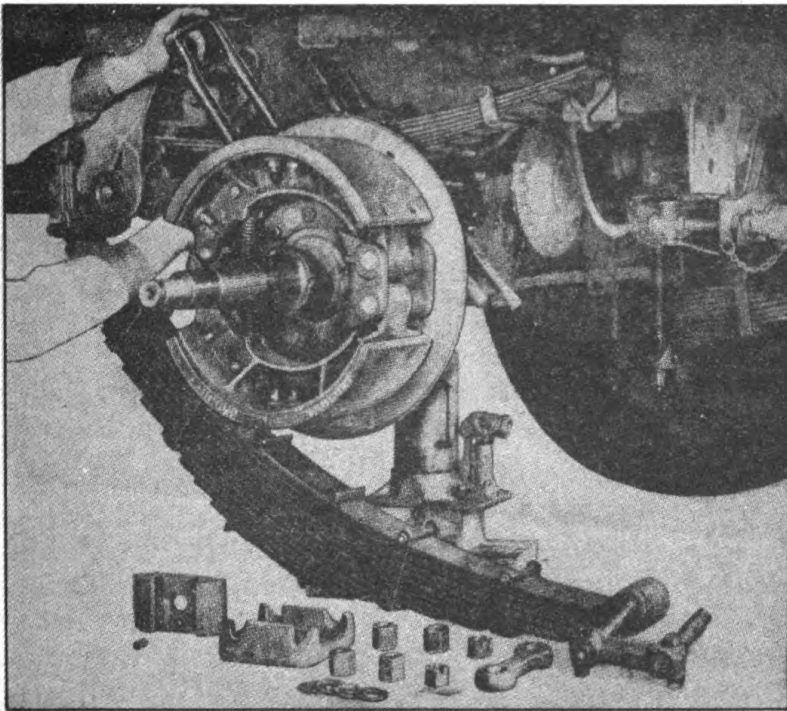

FIGURE 59. SPRING REMOVAL
1. REMOVING MAIN SPRING (Figure 59).—*a.* Uncouple converter gear from semi-trailer and place two jacks under axle on the side from which you intend to remove spring.